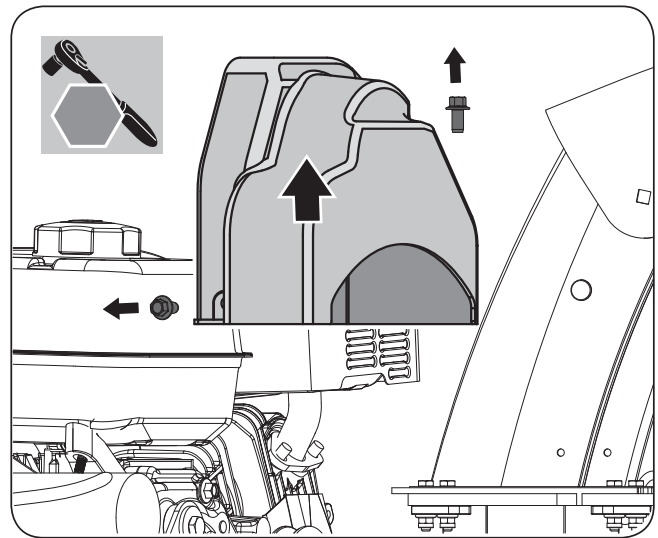

Figure 20a
2. Remove the two screws that hold the belt cover in place and set the cover aside. (See **Figure 20a**)
- Remove belt cover. (See **Figure 20a**)